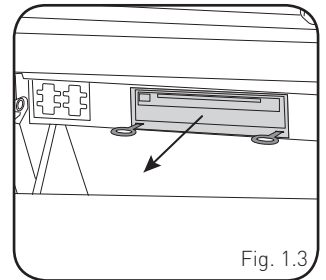

Fig. 1.3
4. **(8 inch radio)** Open glovebox and locate the factory CD player. Using 2 of the supplied removal tools, remove the CD player in the same fashion the radio was removed. (Fig. 1.3) Disconnect main wire harness and all antenna connections.